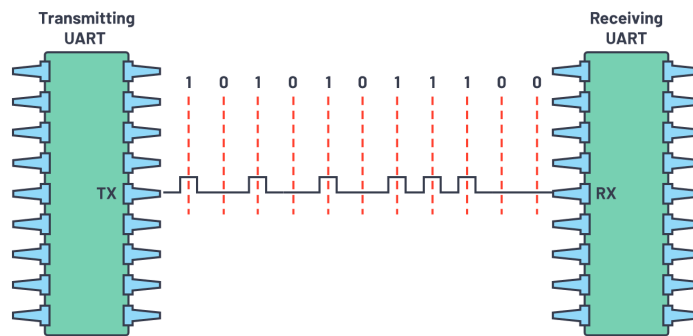

Figure-4: UART transmission
- Third: The entire packet is sent serially starting from start bit to stop bit from the transmitting UART to the receiving UART. The receiving UART samples the data line at the preconfigured baud rate (Figure-4).